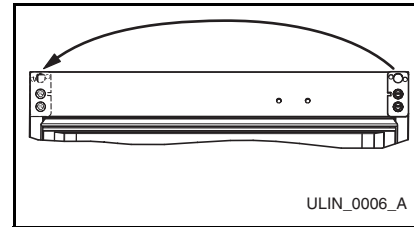

Figure 27
8. With bottom of door facing up, remove pivot plate (two screws), flip over, and remount on opposite side of door **(Figure 27)**. **Be sure notch in plate faces center.**